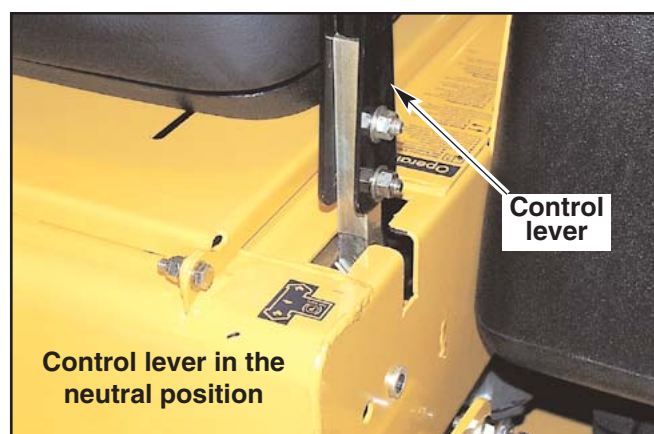

Figure 9-25
The tractor steering has been factory adjusted to eliminate creeping when the control levers are in the neutral position (Fig. 9-25). However, should the tractor begin to creep, the control lever linkage can be adjusted as follows:
2. Position the control lever in the neutral position. Disengage the deck clutch switch Fig. 9-25.
2. Place the control lever in the neutral position. Fig. 9-25